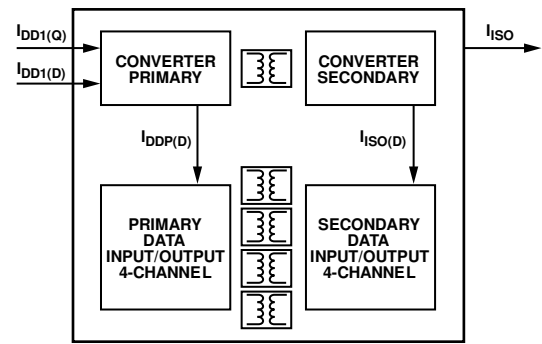

Figure 27. Power Consumption Within the ADuM5401W/ADuM5402W/ADuM5403W
The VDD1 power supply input provides power to the iCoupler data channels, as well as to the power converter. For this reason, the quiescent currents drawn by the power converter and the primary and secondary I/O channels cannot be determined separately. All of these quiescent power demands have been combined into the IDD1(Q) current, as shown in Figure 27. The total IDD1 supply current is equal to the sum of the quiescent operating current; the dynamic current, IDD1(D), demanded by the I/O channels; and any external IISO load.